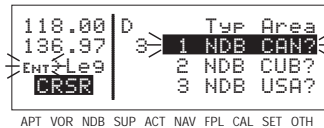

Figure 3-47
- Press **ENT**. The Duplicate Waypoint page will be displayed on the screen (figure 3-47). At the time of this writing, there were three waypoints in the Americas data base having the identifier **D**.